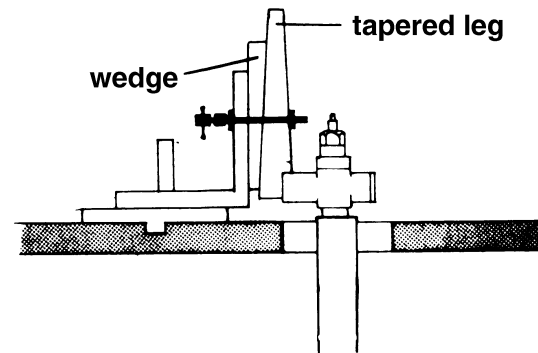

Figure 62
**Note:** If the leg is tapered, use a wedge to place the side facing the cutter into a 90 degree vertical position as shown in Figure 62.